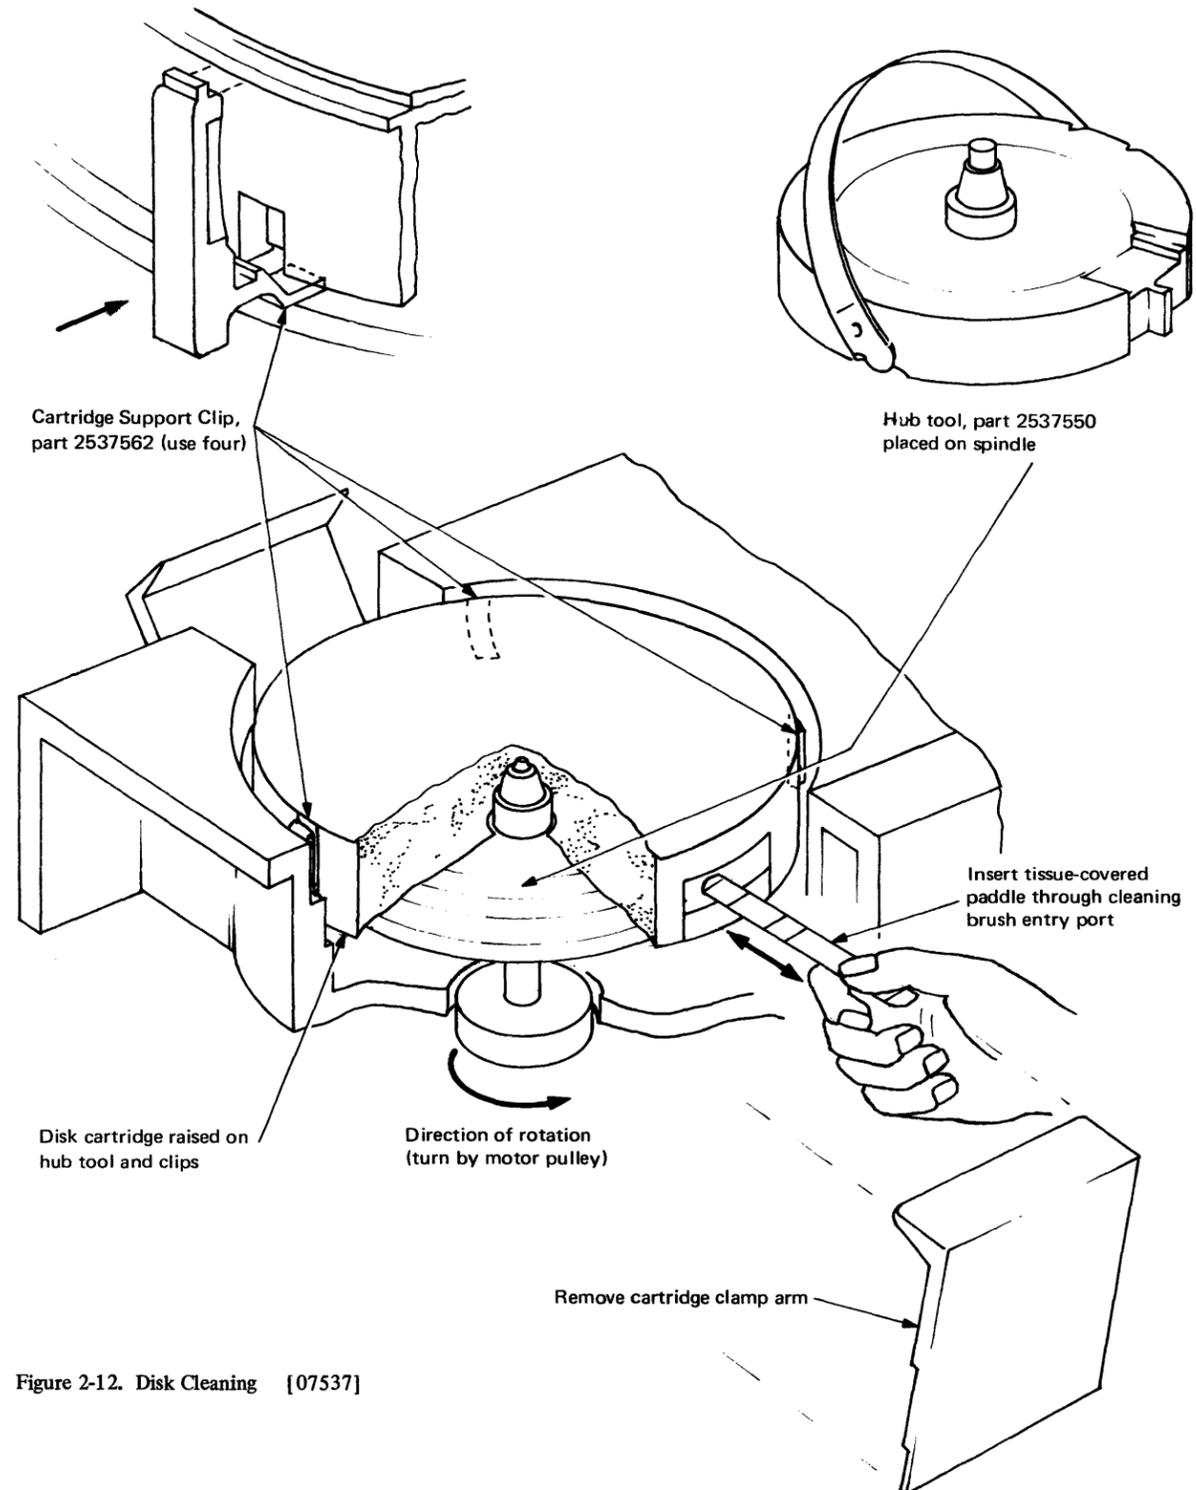
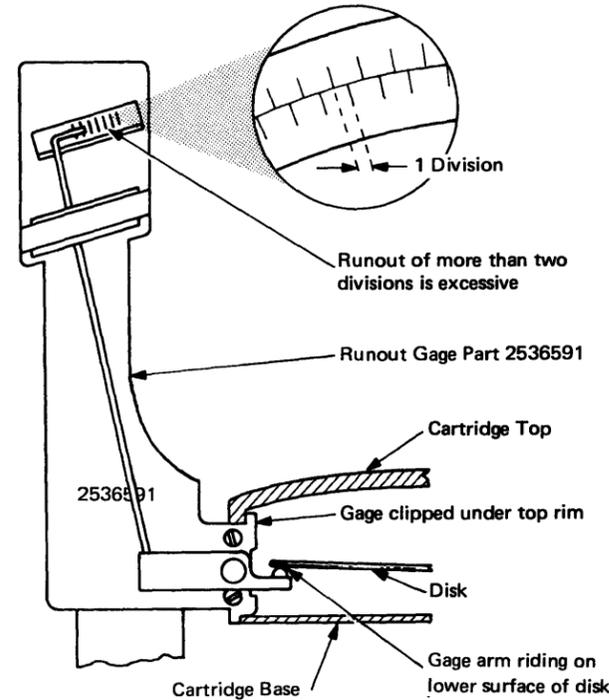

Figure 2-12. Disk Cleaning [07537]
Figure 2-13. Runout Check - Removable Disk [07538]
4. Fit four cartridge support clips, part 2537562, in the four slots around rim of cartridge (Figure 2-12).
4. Insert disk runout gage, part 2536591, under top rim of disk cartridge (Figure 2-13) so that gage arm rides on lower surface of disk. Fit cartridge support clips, part 2537562, in the four slots around rim of cartridge (see Figure 2-12).